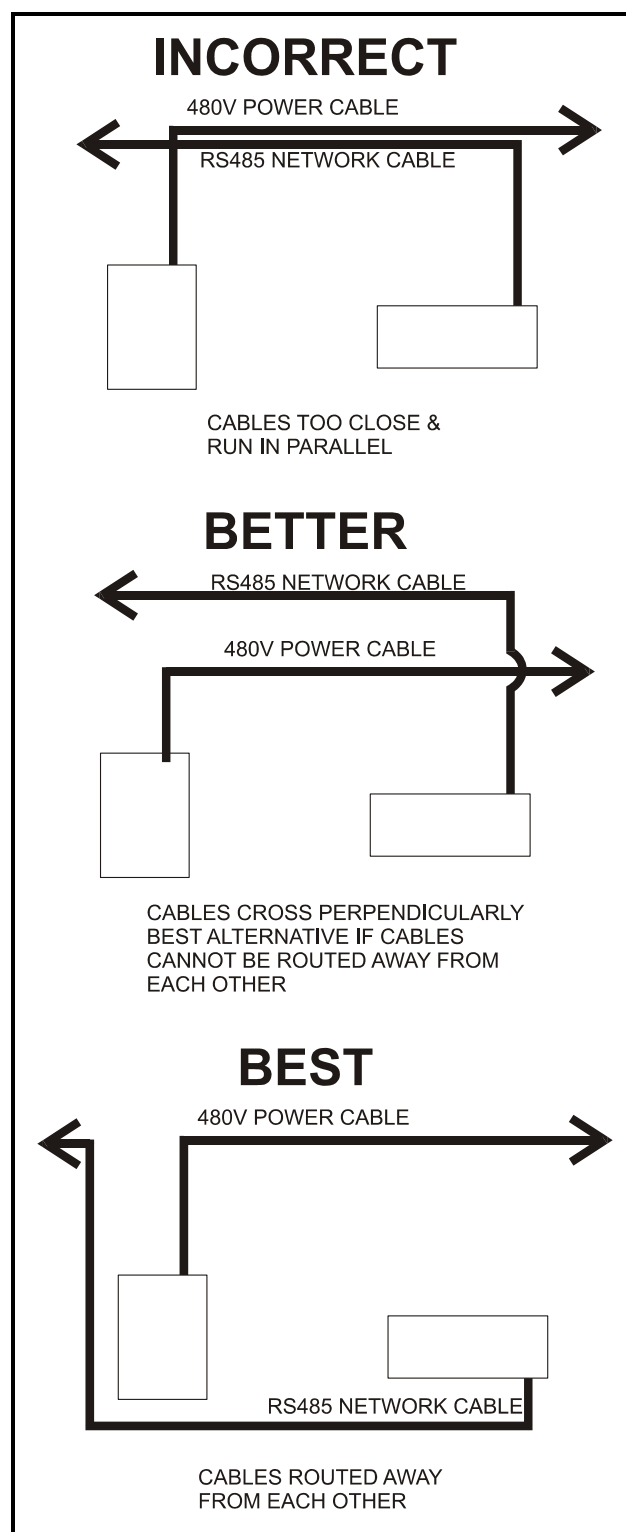

Figure 3-1 - Examples of Good & Bad Cable Routing
3. Avoid running even part of the communication wiring in close parallel with high voltage wiring. A run of parallel wire as short as a few inches could yield enough noise to affect network communication. If the wires must cross each other in close proximity, cross them perpendicularly to each other so the amount of noise is minimized (see *Figure 3-1*).